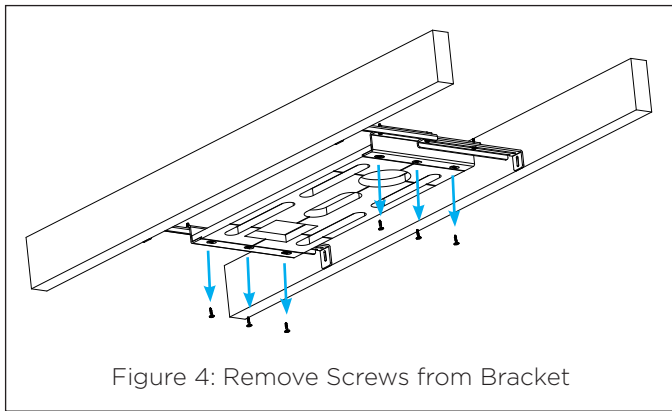

Figure 4: Remove Screws from Bracket
7. Remove the screws on the front of the bracket, three on each end, to remove the MDF bracket from the bracket frame (see Figure 4). These screws can be discarded.